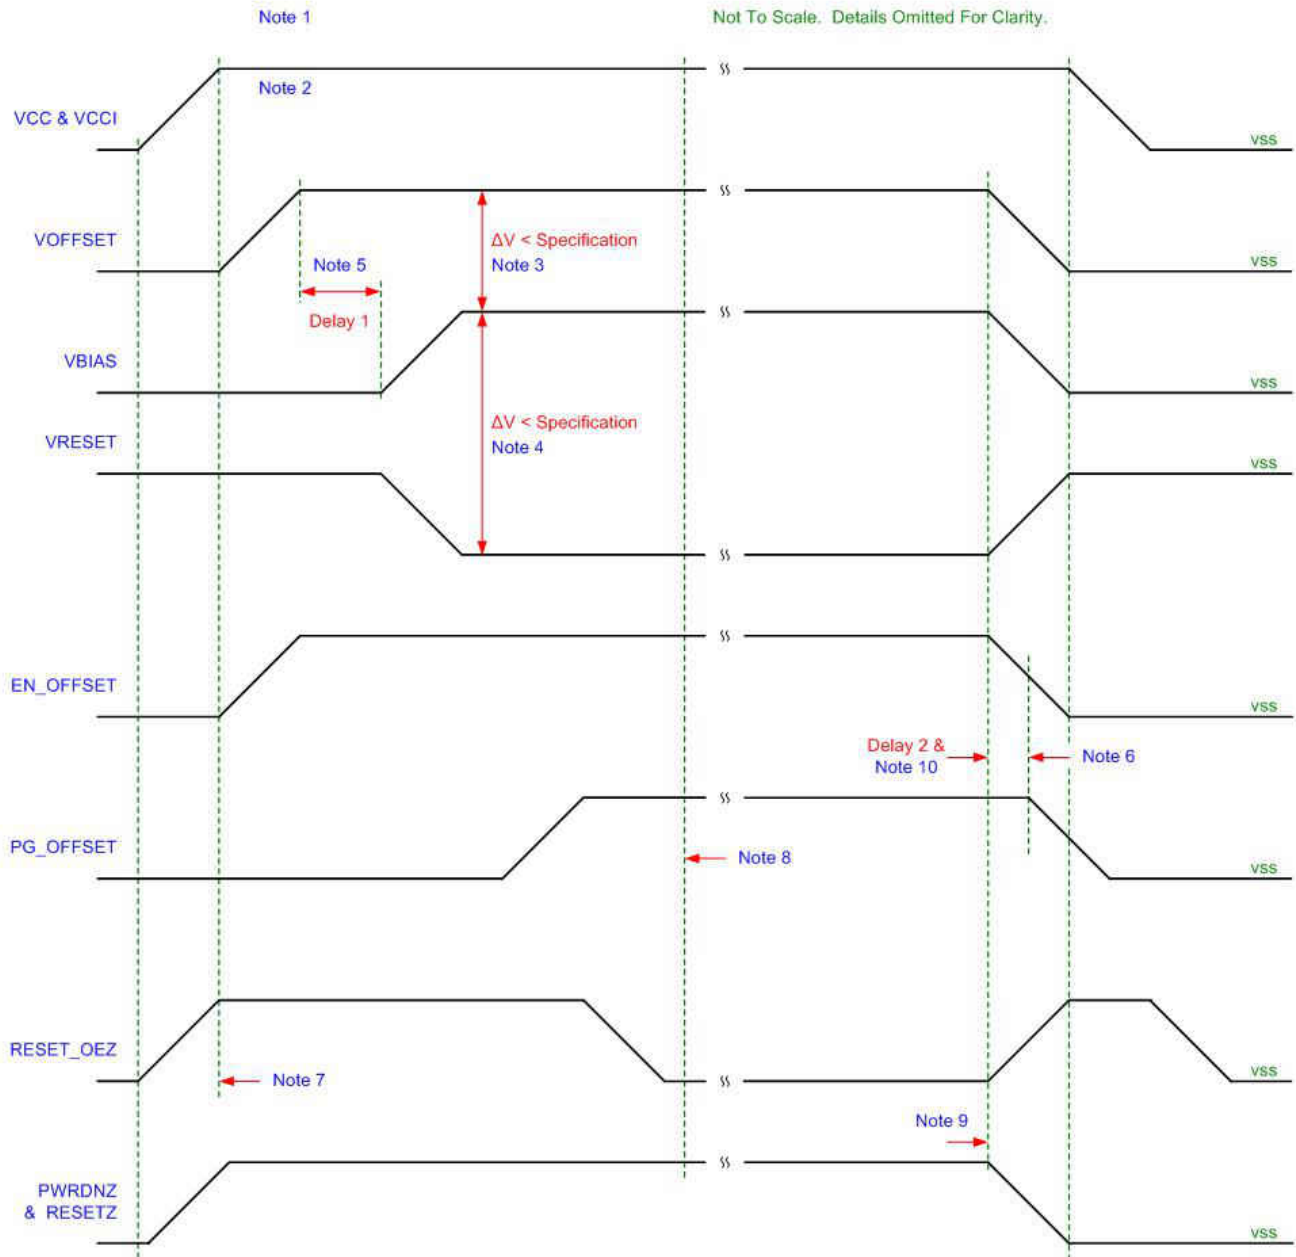

图 9-1. DMD Power Supply Requirements
For reliable operation of the DMD, the following power supply sequencing requirements must be followed. Failure to adhere to any of the prescribed power-up and power-down requirements may affect device reliability. See 图 9-1 DMD Power Supply Sequencing Requirements.
- Power supply slew rates during power-up are flexible, provided that the transient voltage levels follow the requirements specified in 节 6.1, in 节 6.4, and in 图 9-1.
- Power supply slew rates during power-down are flexible, provided that the transient voltage levels follow the requirements specified in 节 6.1, in 节 6.4, and in 图 9-1.